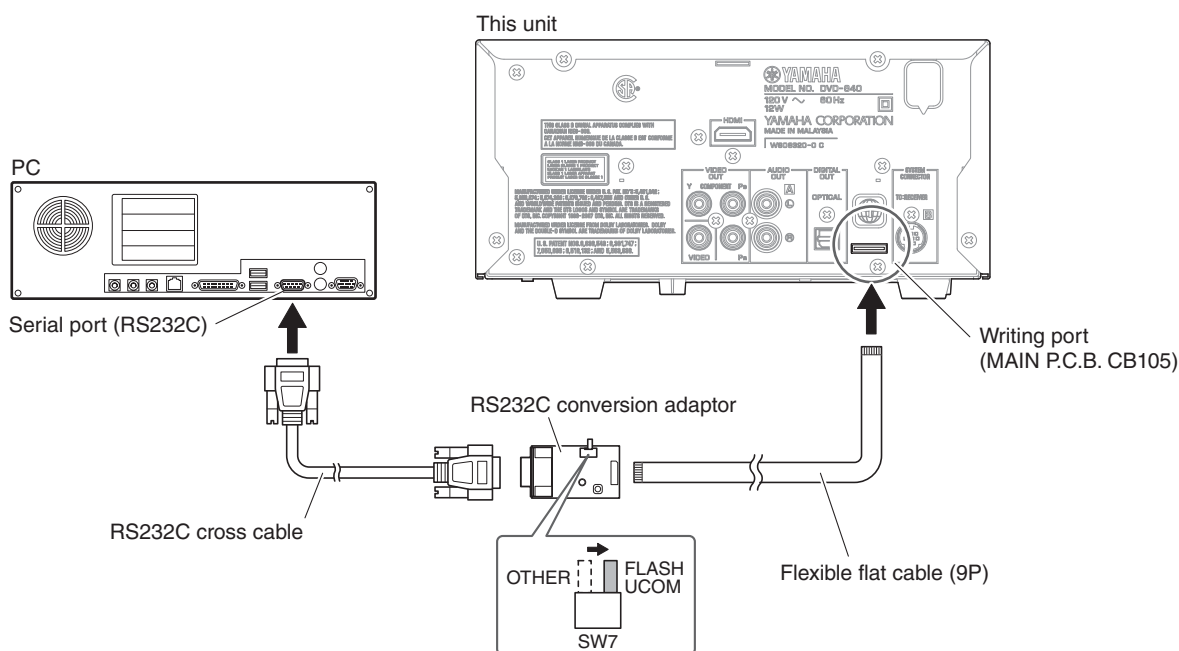

Fig. 1
- 1. Set the switch (SW7) of RS232C conversion adaptor to the “FLASH UCOM” position. (Fig. 1)
- 2. Connect the writing port (CB105 of MAIN P.C.B.) located on the rear panel of this unit to the serial port (RS232C) of the PC with RS232C cross cable, RS232C conversion adaptor and flexible flat cable as shown below. (Fig. 1)